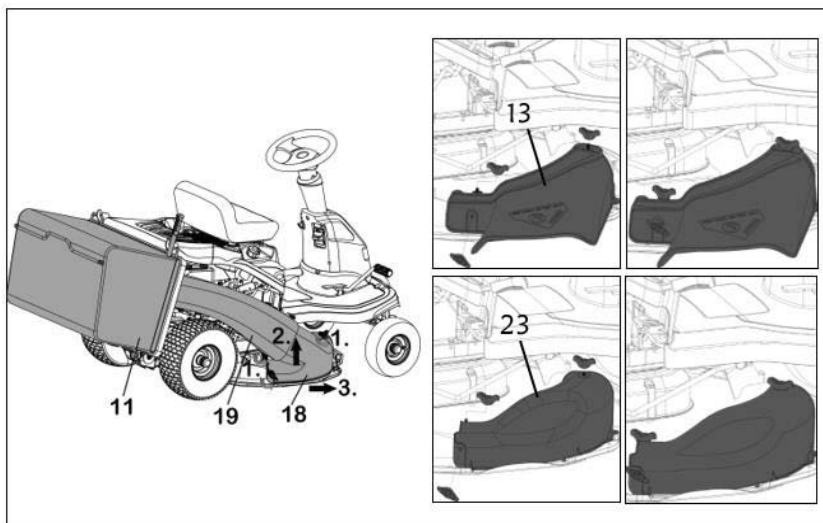

Figure 14
1. Remove parts no. 18 and 19 as shown in Figure 14 (Note: Part no. 11 is always on the mower and should not be removed).
2. Install parts no. 13 the side deflector or no. 23 the mulching kit as shown in Figure 14.